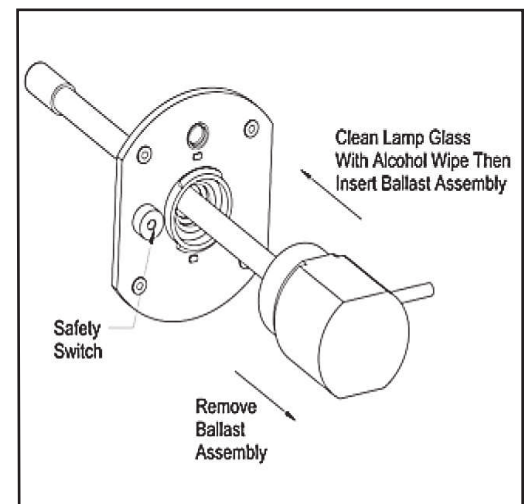

Figure 10
2. Remove the ballast assembly and lamp from the mounting base. (See Figure 10)
6. Position the ballast assembly power cord 90° to the viewport hole on the mounting base. (See Figure 10)